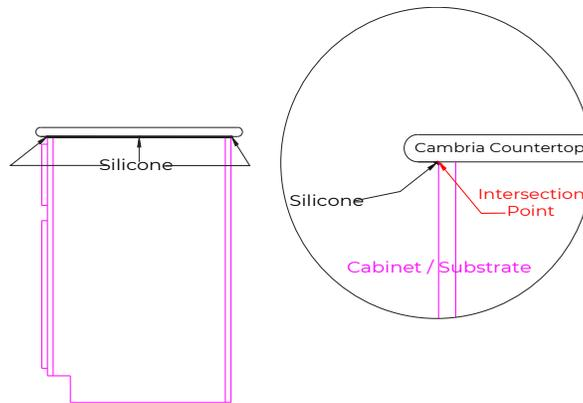

FIGURE 12
10. Use 50-year, 100% silicone to fasten Cambria to the support. Run a light bead of 50-year, 100% silicone at the intersection point of the Cambria countertop and the substrate or cabinet. This bead will be continuous throughout the entire perimeter. See Figure 12.